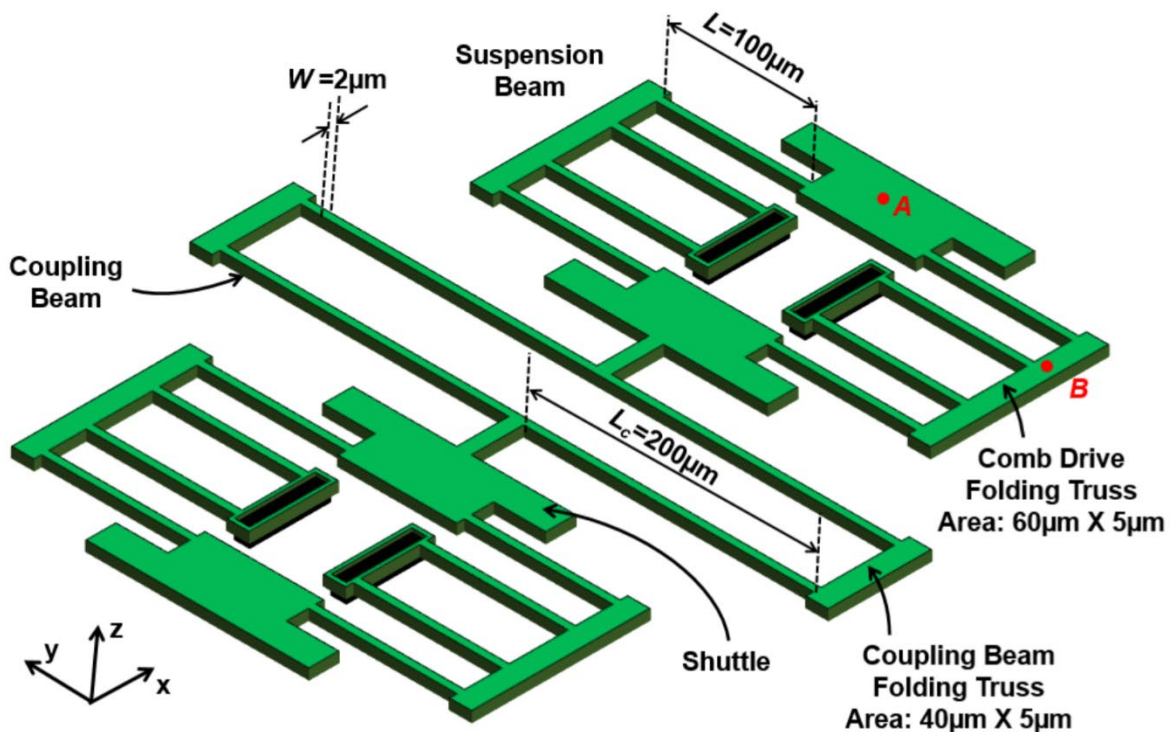

Figure PS4.4
2. Fig. PS4.4 presents a small micromechanical filter constructed in a  $2\ \mu\text{m}$ -thick structural layer. Here everything is suspended  $2\ \mu\text{m}$  above the substrate except for the darkly shaded anchor regions. Data on the structural material are given in Table PS4.1 below. Assume that all folding trusses and shuttles are perfectly rigid in all directions, including the vertical (i.e.,  $z$ ) direction. Also, assume that all suspension and coupling beam widths are  $2\ \mu\text{m}$ .